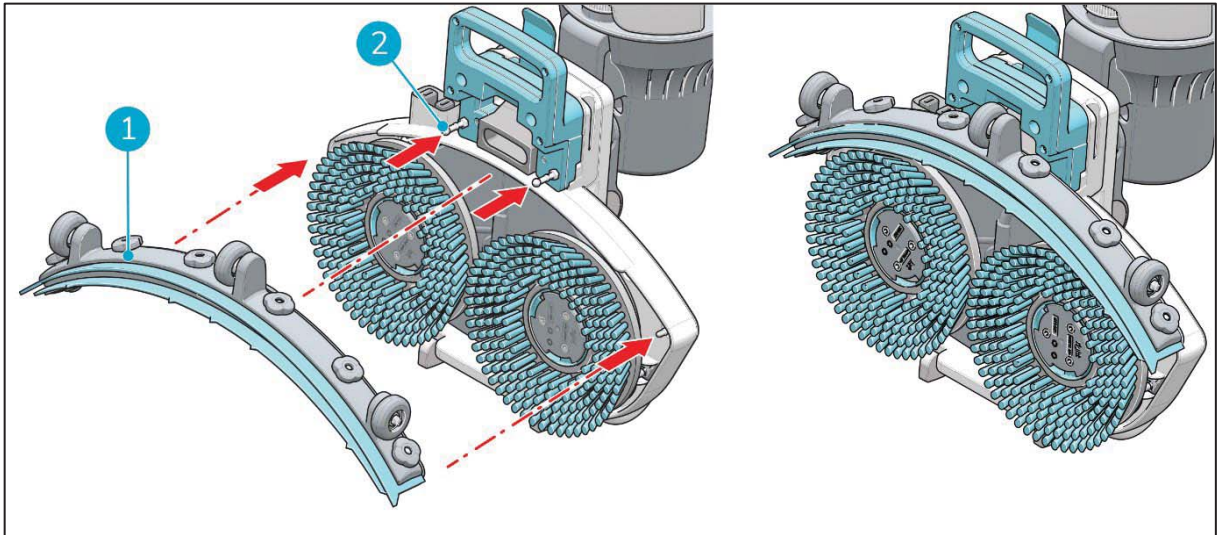

Figure 10
2. Align the pins on the scrub deck (Figure 10, pos 2) with the holes on the squeegee (Figure 10, pos 1).